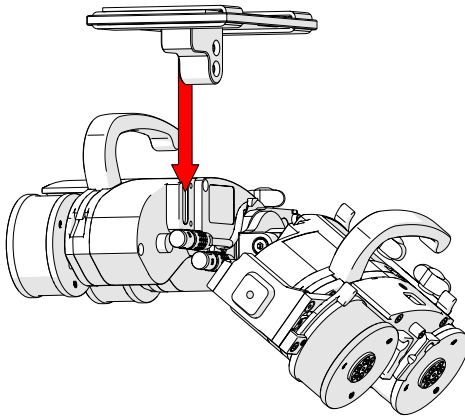

Fig. 267 - Pivot and insert dovetail nut
1. Allow the **NAVIC** crawler to pivot, exposing the inside of the left drive module (Fig. 267).
2. Slide the dovetail nuts of the backpack into the accessory dovetail groove (Fig. 267).